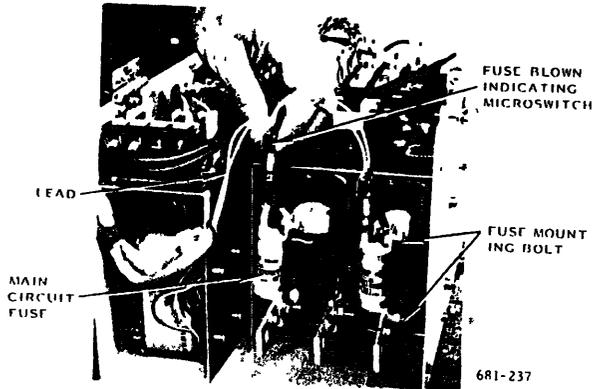

Fig. 17 Main Circuit Fuse (230V, 25A)
1. Remove the fuse blown indicating microswitch with the leads by pulling upward. (Fig. 17)